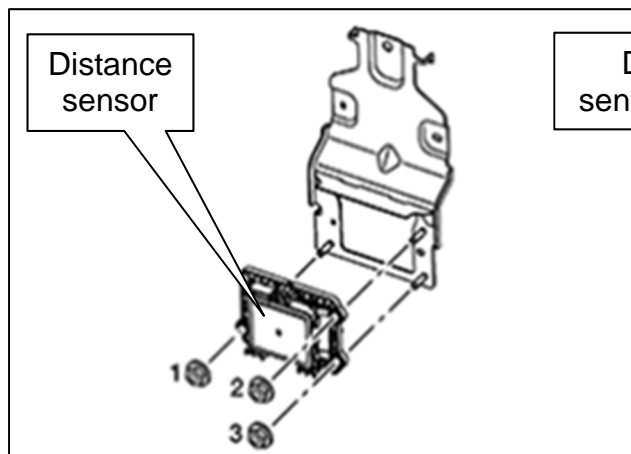
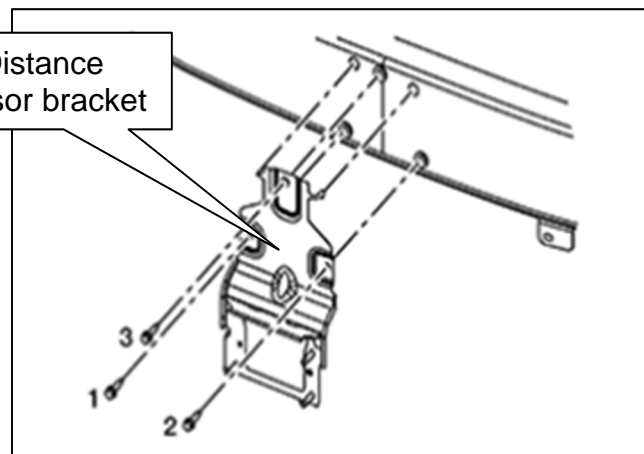

Figure 2
Figure 3
- a. Tighten any loose nuts or bolts found attaching the distance sensor to the distance sensor bracket, or the distance sensor bracket to the vehicle, in the patterns shown in Figure 2 and Figure 3.